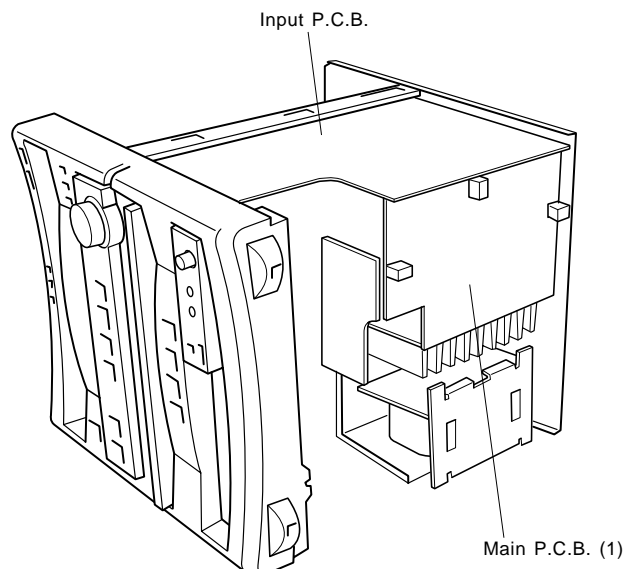

Fig. 9
- i. Place the main unit on its left side (viewed from the front) and remove the Bottom Cover in Fig. 9.
- j. Install the Panel Unit to the main unit in Fig. 9.